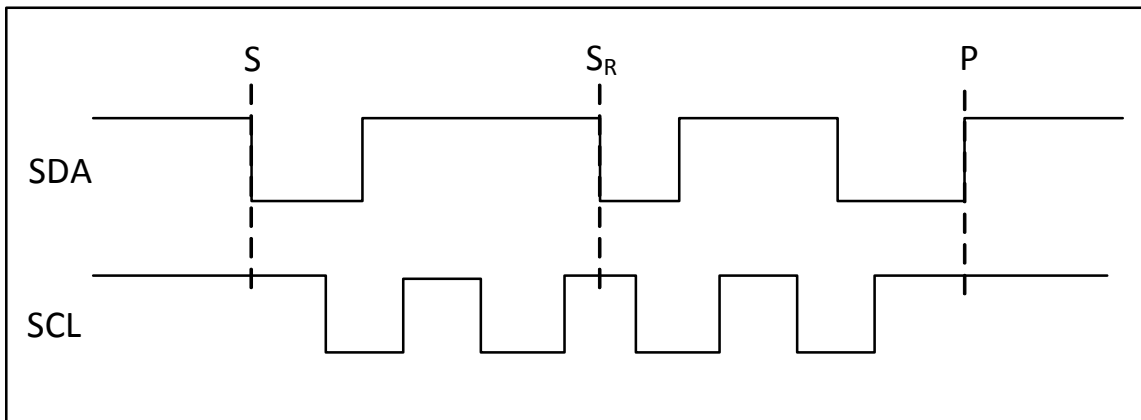
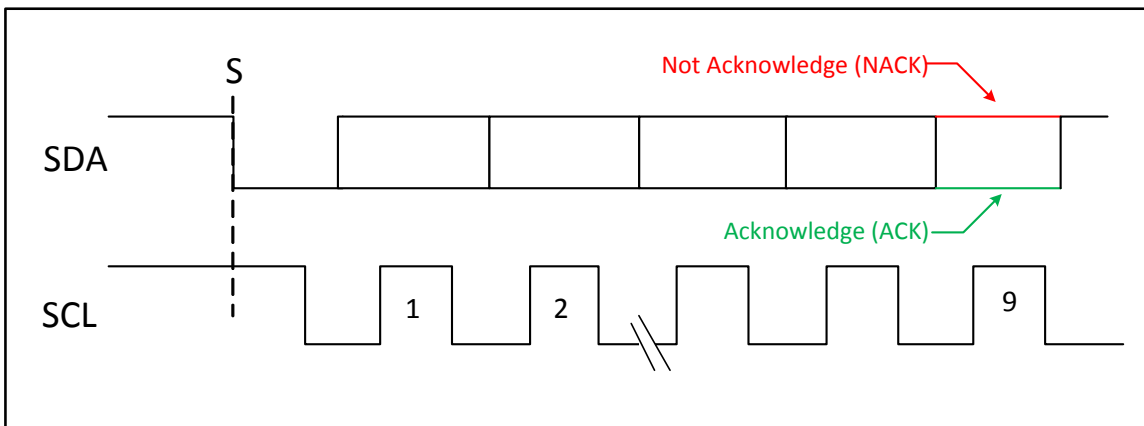

Figure 9. Start and Stop Conditions
Figure 10. Acknowledge Cycle
The I²C/SMBus serial port is a two-wire serial bus where data line SDA is bidirectional and clock line SCL is unidirectional. Reads and writes to this interface by the master are byte-oriented, with the I²C/SMBus master controlling the serial data rates up to 240 kbps. The SDA and SCL lines must be pulled high through pull-up resistors of 5 k Ω or less. An Si8901 ADC read transaction begins with a START condition ("S" or Repeated START condition "SR"), which is defined as a high-to-low transition on SDA while SCL is high (Figure 9). The master terminates a transmission with a STOP condition (P), defined as a low-to-high transition on SDA while SCL is high. The data on SDA must remain stable during the high period of the SCL clock pulse because such changes in either line will be interpreted as a control command (e.g., S, P SR). SDA and SCL idle in the high state when the bus is not busy. Acknowledge bits (Figure 10) provide detection of successful data transfers, whereas unsuccessful transfers conclude with a not-acknowledge bit (NACK). Both the master and the Si8901 generate ACK and NACK bits. An ACK bit is generated when the receiving device pulls SDA low before the rising edge of the acknowledged related (ninth) SCL pulse and maintains it low during the high period of the clock pulse. A NACK bit is generated when the receiver allows SDA to be pulled high before the rising edge of the acknowledged related SCL pulse and maintains it high during the high period of the clock pulse. An unsuccessful data transfer occurs if a receiving device is busy or if a system fault has occurred. In the event of an unsuccessful data transfer, the bus master attempts communication at a later time. Figure 11A shows the I²C Slave Address Byte and CNFG_0 byte for the Si8901. Figure 11B and Figure 11C show master/Si8901 ADC read transactions for Demand Mode and Burst Mode, respectively.